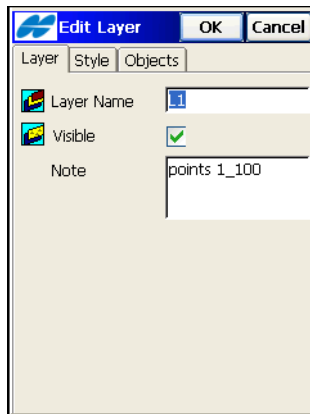

Figure 6-29. Edit Layer Name
- **Edit** – opens the applicable **Edit Layer** screen to display the properties of the highlighted layer (Figure 6-29 on page 6-24).
The *Edit Layer* screen (Figure 6-29) is similar to the *Add Layer* screen but has the additional *Objects* tab to view objects on the layer.